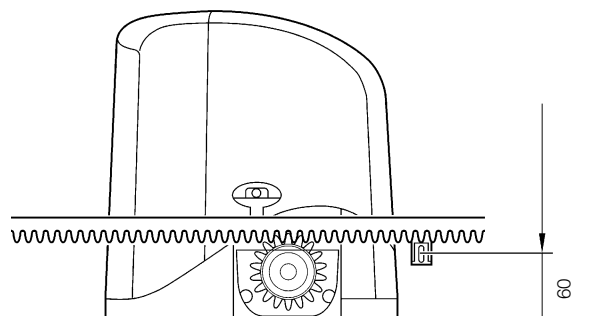

Figure 10
- Make sure there is a suitable fixing surface at the points where the rack is fixed to the gate. For the CR100 rack, see figure 10.